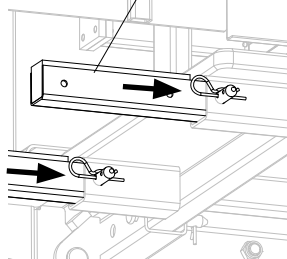

Fig. A3.06a
1. Fold out End Platforms MXP (11), insert Platform Extensions MXP (11.2) and secure with pins and cotter pins. (Fig. A3.06a)